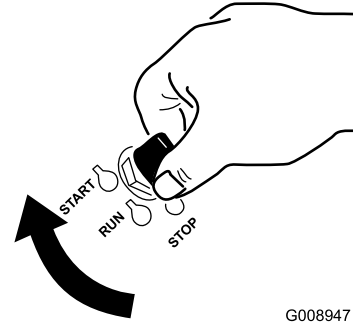

Figure 16
1. Turn the ignition key to the Start position (Figure 16).